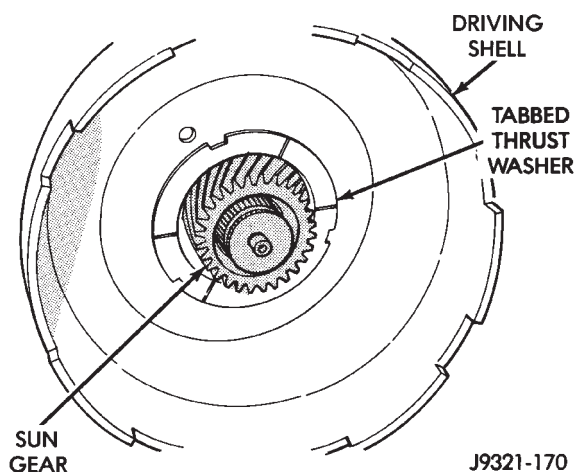

Fig. 72 Driving Shell Thrust Washer Removal—46RH
(4) Remove tabbed thrust washer from driving shell (Fig. 72). Note washer position for assembly reference.